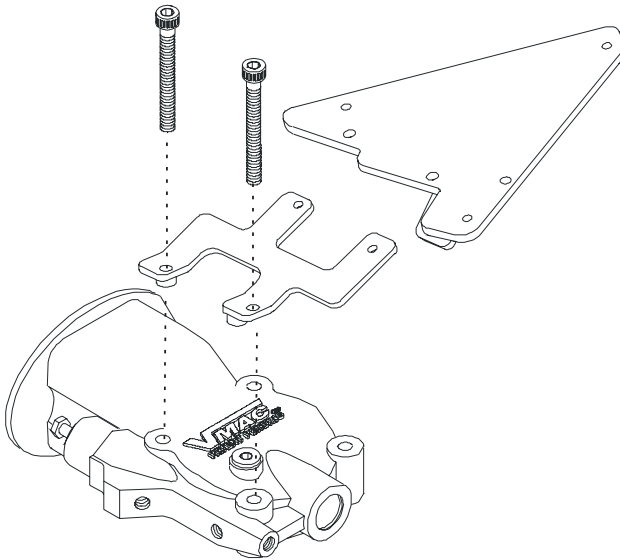

Figure 3.2
- Place the supplied fuel control module bracket in position over the remaining inlet control valve holes and thread in the remaining bolts (Figure 3.2). Torque all the bolts to specifications.